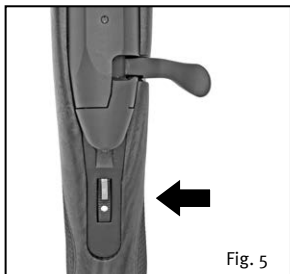

Fig. 5
### Optional Lock Position (Fig. 5)
If the forward set trigger is cocked, move safety slide in lock position (Fig. 5) to automatically uncock the forward set trigger.
2. Move rotary safety to position "Lock" (Fig. 5 gray lock snaps out).
2. When reinserting the bolt into the receiver the rotary safety will be in “Lock” position (Fig. 5). Hold the bolt by the bolt handle and insert it into the receiver. When inserting the bolt, rotate the bolt so that the bolt handle slides into the slot of the receiver.